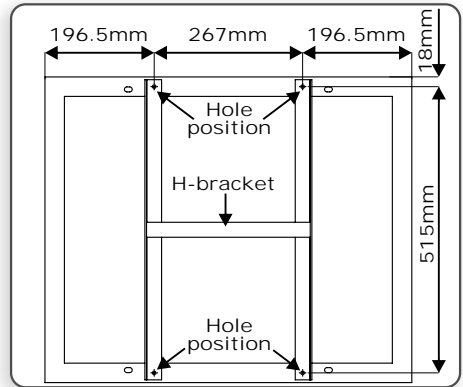

FIGURE 5
1. Align the H-bracket in the centre of the panel and proceed to mark the location of the four mounting holes. Figure 5 provides an indication of where the holes are to be drilled.